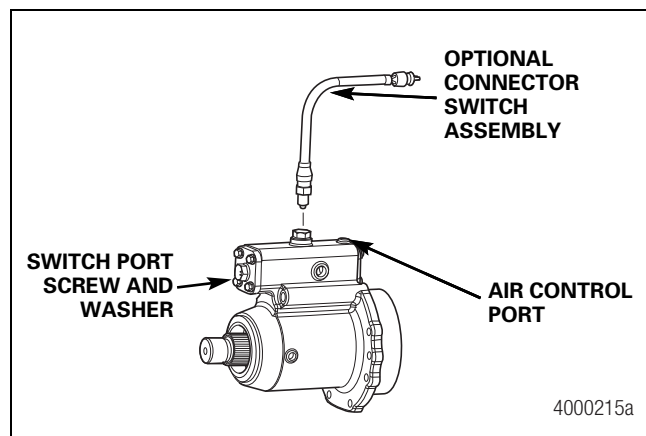

Figure 7.4
1. Remove the screw and washer from the end of the PTO cap. Figure 7.4.
1. Remove the switch port screw and washer. Figure 7.4.